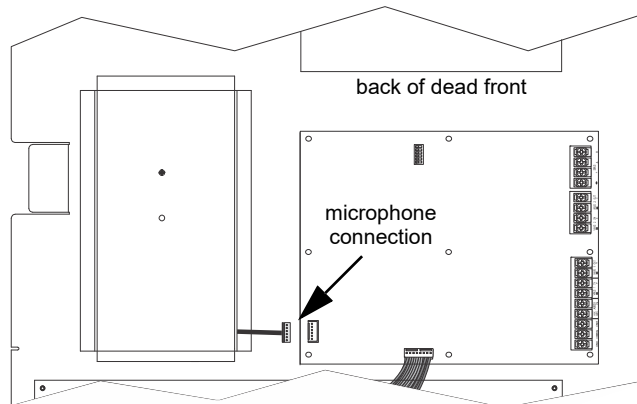

Figure 4.75 Microphone Cord Inserted Through Dead Front Panel Hole
2. Insert microphone cord through hole at the bottom of the dead front panel. See Figure 4.75.
- Unplug the microphone from the microphone connector. See Figure 4.75.